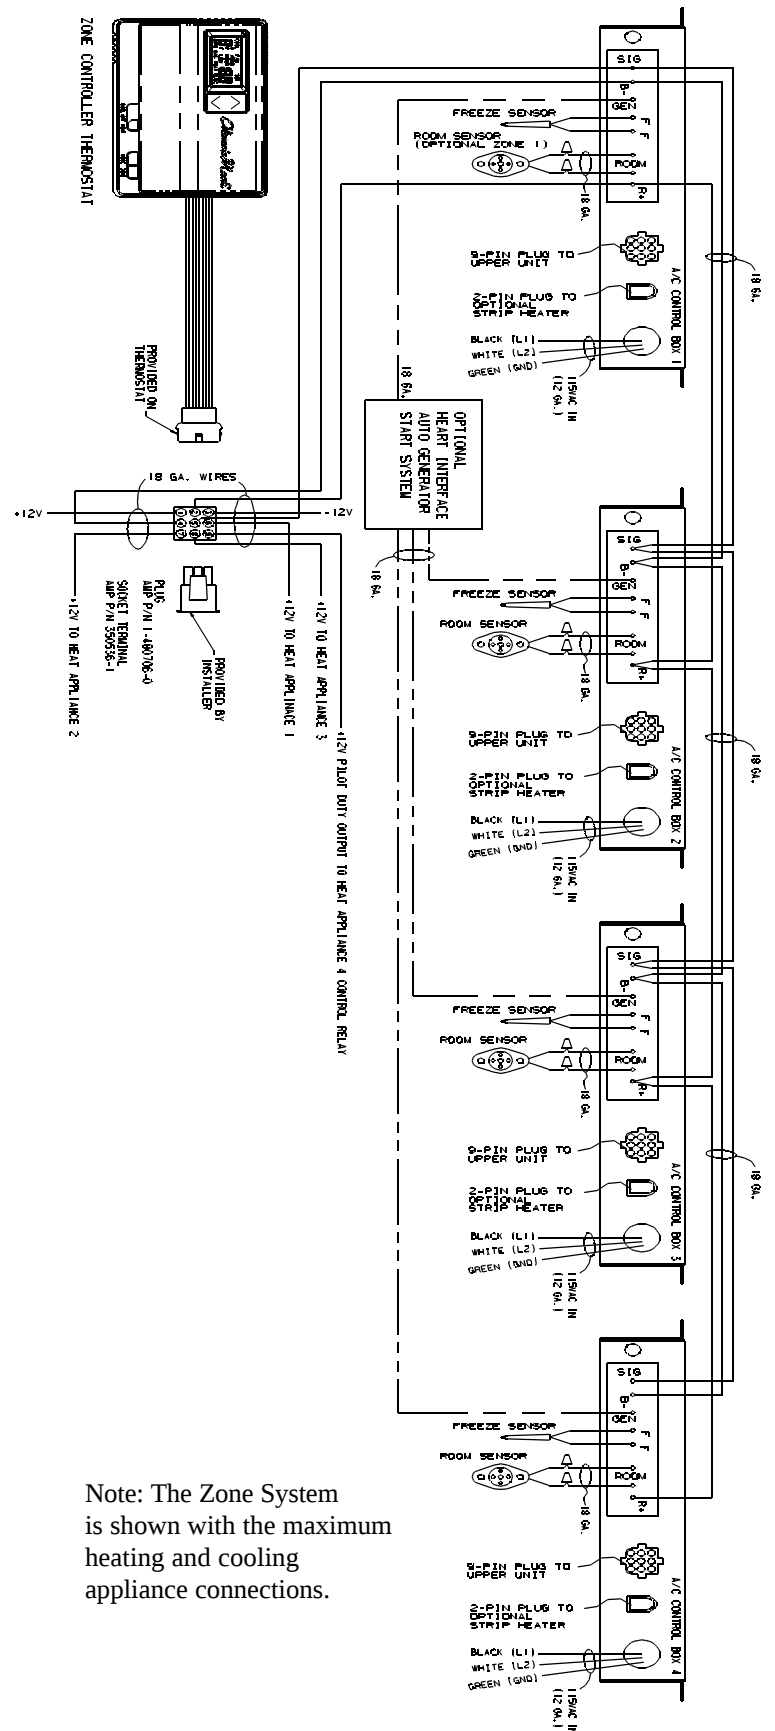

FIGURE 9
- (1) For each heating appliance (Up to 4)
- B. See Figure 9 for wiring requirements for multiple zones.
Zone 2 is wired in by jumpering SIG, B- and R+ on Zone 1 box to Zone 2 box. Zone 3 is wired in by jumpering from SIG, B- and R+ on Zone 2 box to Zone 3 box. Zone 4 is wired in by jumpering from SIG, B- and R+ on Zone 3 box to Zone 4 box (See Figure 9).